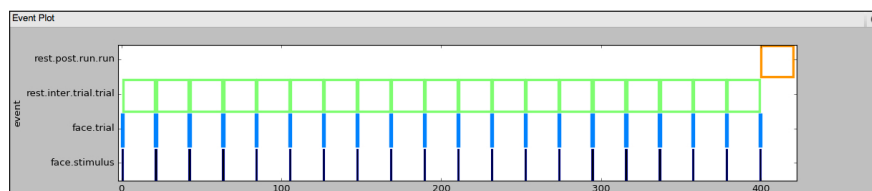

Figure 22: Initial slow event related event plot
Once all events are defined and configured your event plot should look like Figure 22. Each run (we have only prescribed one, for now) will consist of smaller events called trials. Within each trial there will always be two smaller events: a stimulus and an associated ITI. The stimulus event will be the presentation of the stimulus (e.g. a face) and the ITI event is an accompanying period of rest that allows the hemodynamic response to return to baseline. Of note in Figure 22 is the solid event denoted **face.stimulus**. These are the events that will serve as the basis for the estimation of the hemodynamic response. The **green** box denotes the ITI, whereas the **blue** box denotes the face trial. This block box is colored as an empty box, however, the event is so short that the box does not look empty.
2. Set the duration of the **ITI** back to 20 seconds. Now lets add our control condition from the previous unit: scrambled. Return to the **Design** tab and enter another **type** of trial called scrambled into the Event Definition table (**Figure 6**, ①). How did the event plot at the bottom of the **Design** tab change from Figure 22 ?